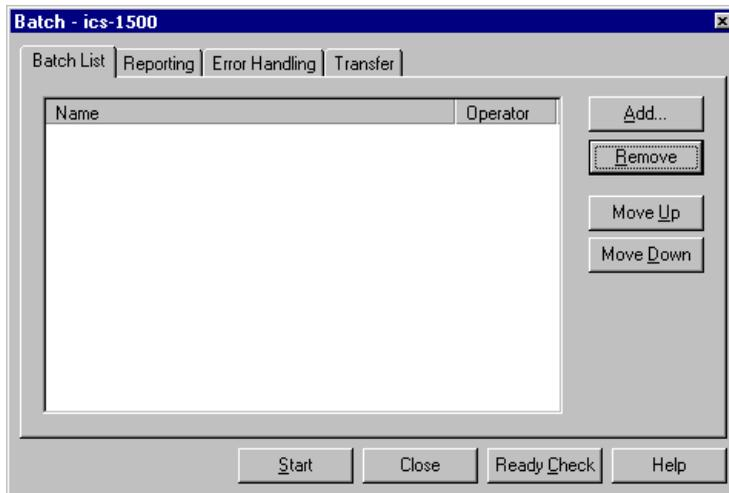

Figure 3-12. Batch Dialog Box
3. To start the sample processing, make sure the System Control Panel is open (see Section 3.3) and is the active window. Then, select **Edit** from the **Batch** menu. The Batch dialog box opens (see Figure 3-12).